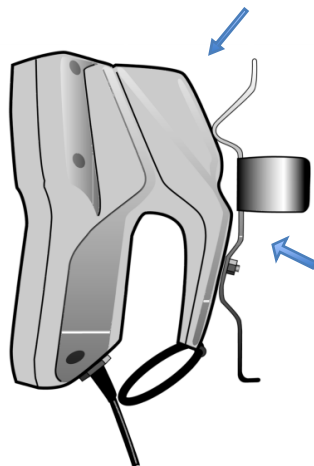

fig 17
1. Open the back part of the handle on the Controller . This part is a combined battery lid and cable hook . This is done by removing the two countersunk screws into the back of the enclosure, see fig 17. You do not have to remove the screw holding the cable hook .